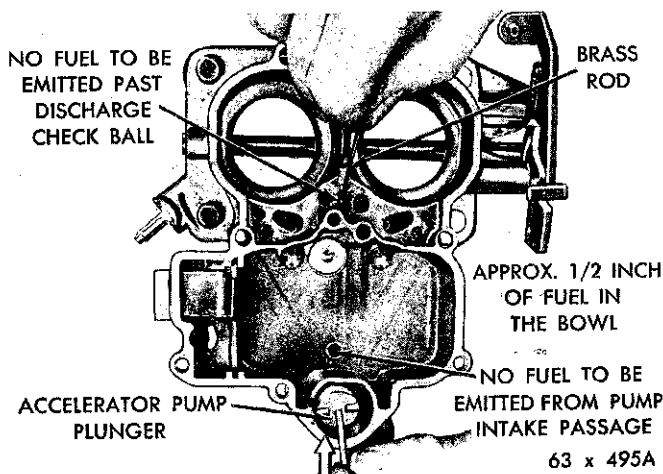

Fig. 14—Testing Accelerator Pump Discharge and Inlet Check Balls
(1) Pour clean gasoline into the carburetor bowl approximately 1/2 inch deep. Remove the accelerator pump plunger from the jar of gasoline and slide down in its well. Raise the plunger and press lightly on the plunger shaft to expel the air from the pump passage.
(2) Using a small clean brass rod, hold the discharge check ball firmly down on its seat. Raise the pump plunger and press downward. No fuel should be emitted from either intake or discharge passage, as shown in Figure 14.
(3) If any fuel does emit from either the intake or discharge passages, it indicates the presence of dirt or an imperfect seat. The passages should be recleaned and then thoroughly blown out with compressed air. Examine the ball seat for signs of dam-